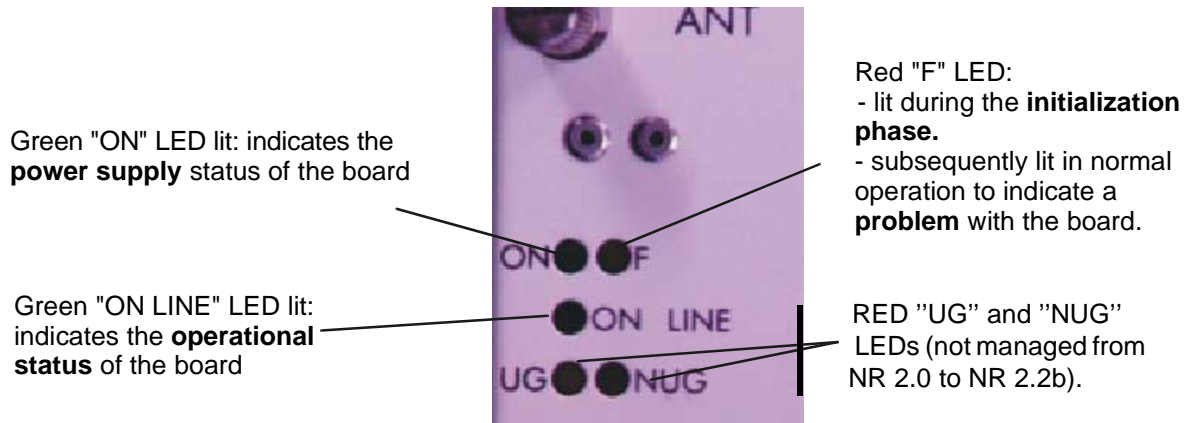

Figure 60 – Role of the LEDs of the DBS board
- board presenting a **fault** but still **powered**: green "ON" LED lit; red "F" LED lit (see *Figure 60 – Role of the LEDs of the DBS board*).